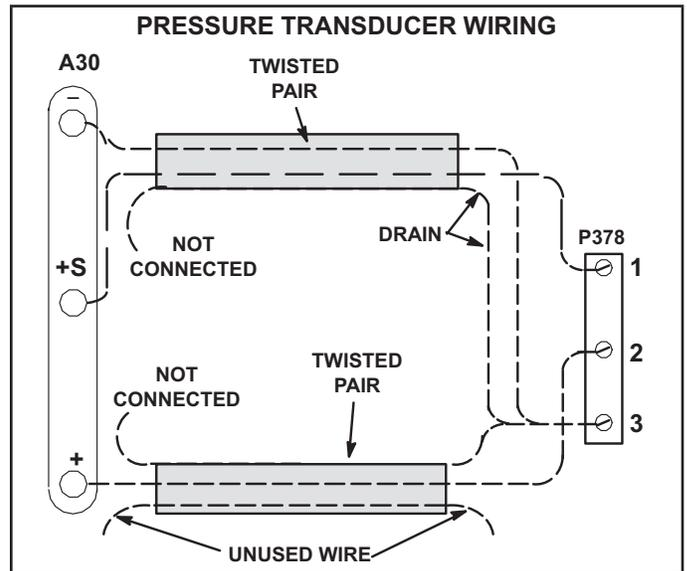

FIGURE 36
- 2 - Two twisted pairs of shielded cable must be used to connect the pressure transducer. See FIGURE 36. J/P378 connector is hanging in the control box.